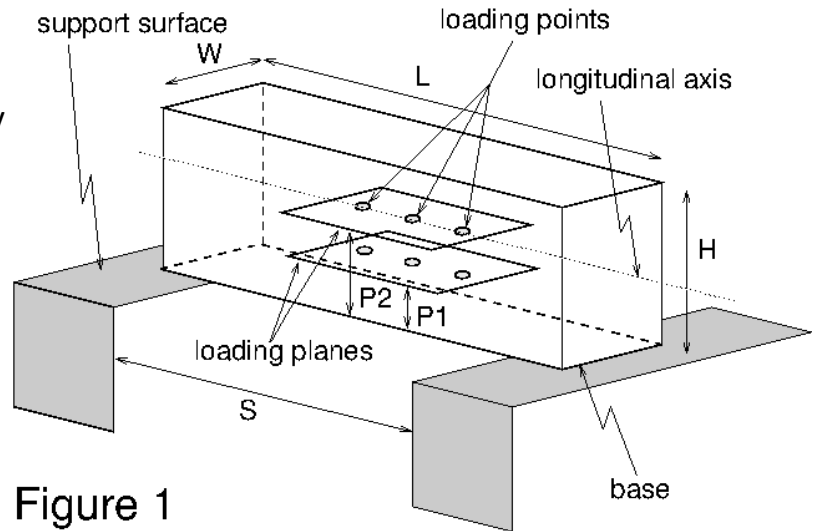

Figure 1
- The bridge (see Figure 1) must span a gap (**S**) of 300. mm, be no longer (**L**) than 400. mm, have a maximum width (**W**) of 80. mm, be no taller (**H**) than 150. mm above the support surfaces.